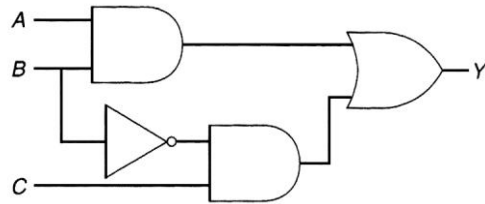

Figure 4-16 Logic circuit for question 25.
25. The correct Boolean expression for the logic circuit of Figure 4-16 is _____. 25._____